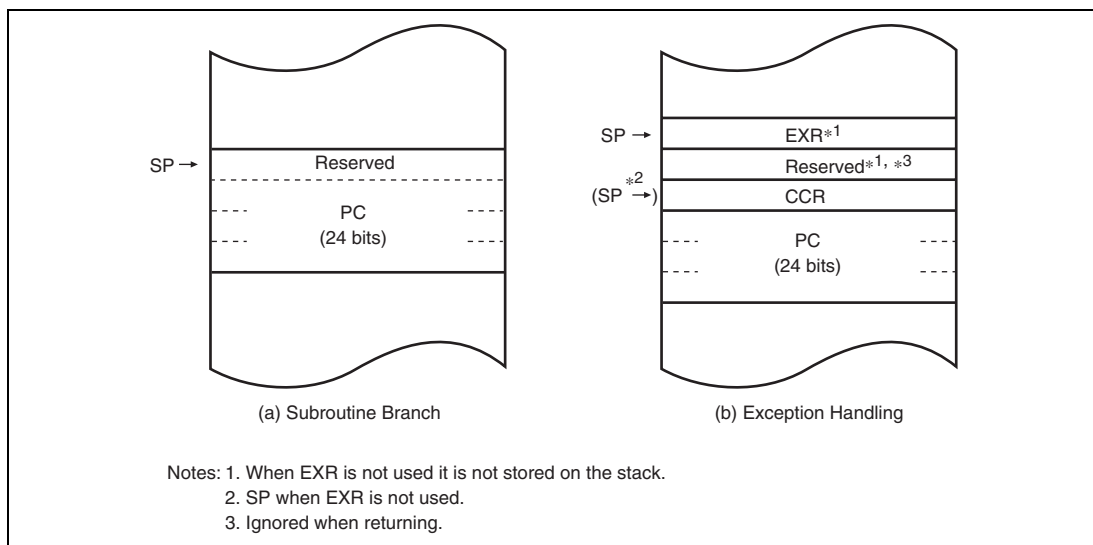

**Figure 2.4 Stack Structure in Advanced Mode**
In advanced mode, when the program counter (PC) is pushed onto the stack in a subroutine call, and the PC, condition-code register (CCR), and extended control register (EXR) are pushed onto the stack in exception handling, they are stored as shown in figure 2.4. When EXR is not pushed onto the stack in interrupt control mode 0. For details, see section 4, Exception Handling.